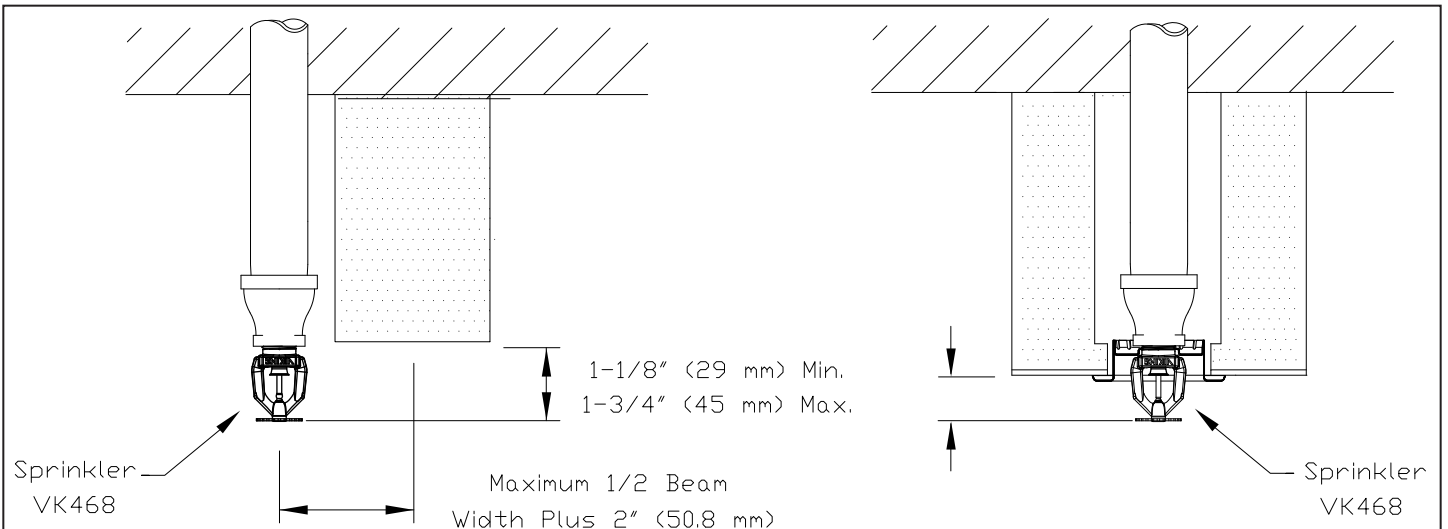

Figure 6: Sprinkler Positioning Under Primary Beams
- ⁹ Listings are for residential occupancies with smooth, flat, horizontal ceilings or horizontal ceilings with beams. Includes ceilings with slopes up to and including a 2/12 (9.5°) pitch. (For beam ceiling design criteria, refer to Beam Ceiling Guidelines and Figures 6 through 7D on pages 149s-t).
Sprinkler Location: Locate sprinklers on the underside of the beams (not in the bays or pockets formed by the beams). Refer to Figure 6. The vertical distance from the sprinkler deflector to the bottom of the primary beam must be between 1-1/8 and 1-3/4” (29 to 45 mm). The horizontal distance from the centerline of the sprinkler to the primary beam cannot be more than 2” (51 mm) (Figure 6).